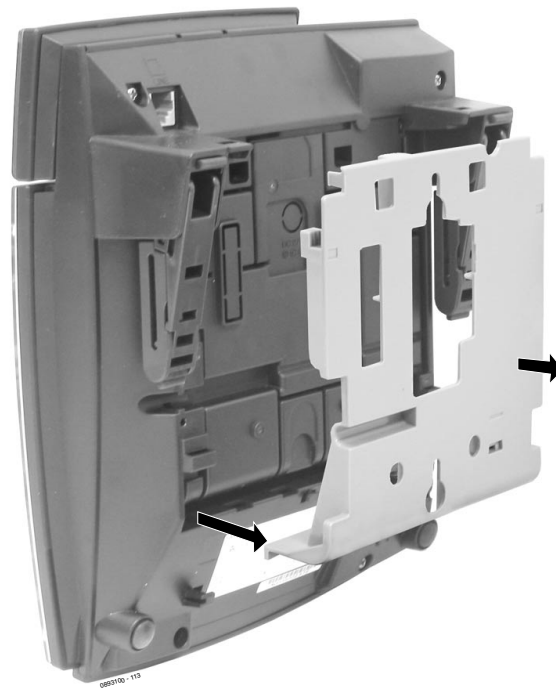

Figure 4-78: REMOVING THE WALL-MOUNT BRACKET
Installing the Wall-Mount Handset Bracket (Figure 4-78 - Figure 4-80)
1. Remove the integrated wall bracket from the bottom of the phone. Refer to Figure 4-78.
1. After removing the integrated wall bracket from the bottom of the phone. (Figure 4-78), attach the wall bracket to the wall using three screws (in the positions indicated below) to the desired wall location.